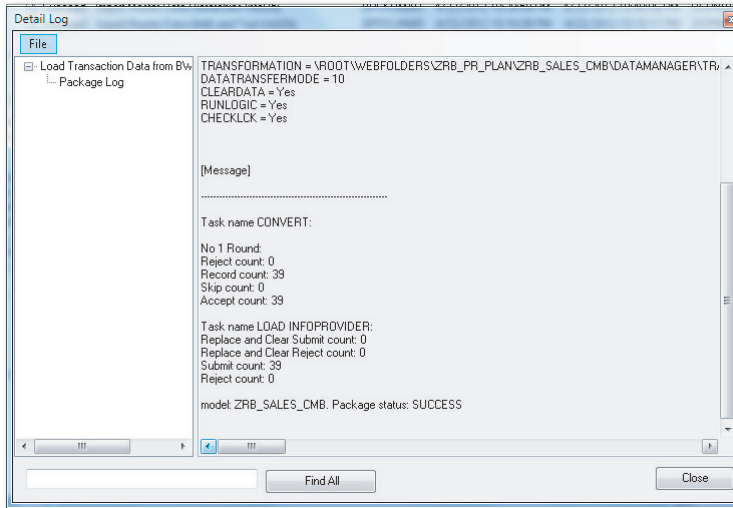

Figure 4.58 Loading Data from an InfoCube into a Model—Part K
13. View the package status and display the details of the log. Figure 4.58 displays the details of the package executed, along with the records processed.